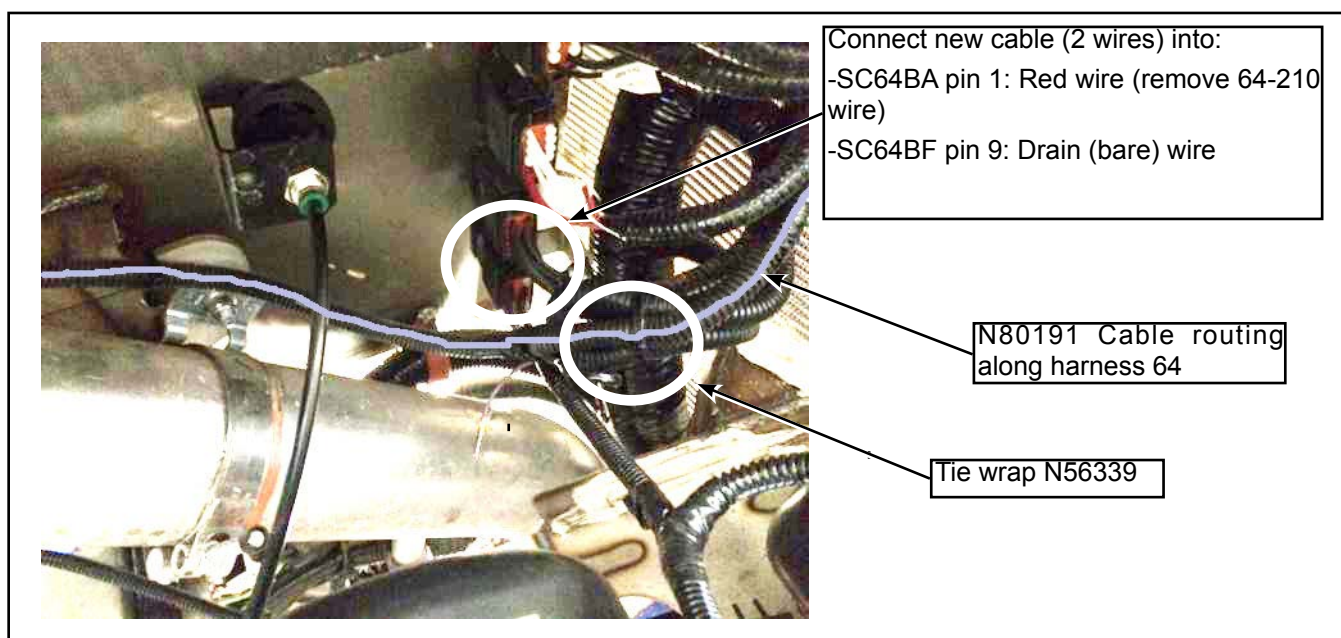

Figure 6 - N80191 Cable Routing Along Harness 64
- 1.7. Connect the two wires of segments C and D from new cable into SC64BA and SC64BF respectively. Remove wire 64-210 from SC64BA pin 1 and connect the red wire. Connect the drain wire to SC64BF pin 9 (see Figure 6).